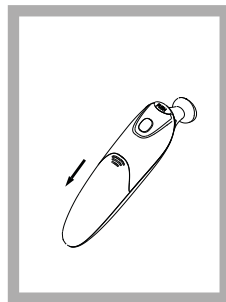

Figure 10
2. Slide battery cover down as shown in Figure 10.